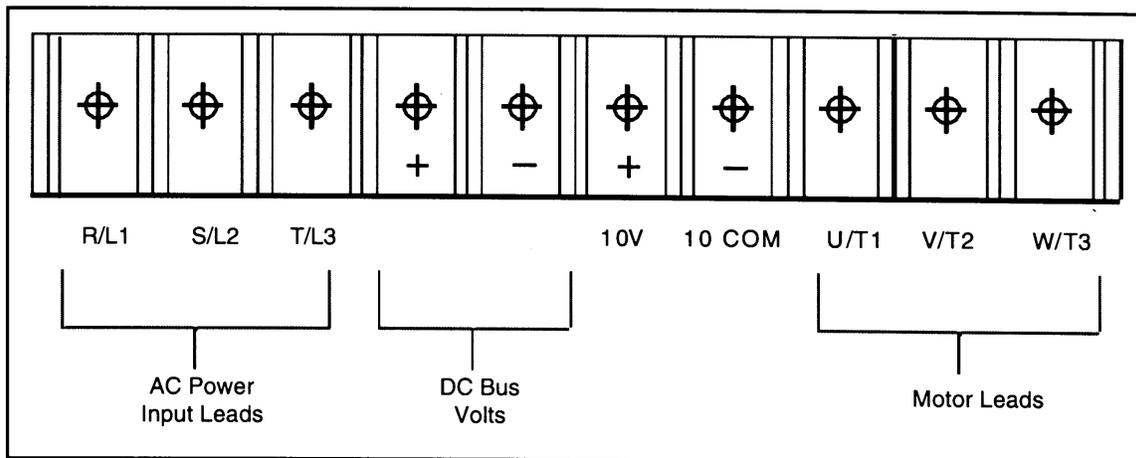

Figure 2.4 – DC Bus Voltage Terminal (7.5 to 10HP)
- ii. Use a voltmeter to measure the DC bus potential at the DC bus power terminals shown in figure 2.4.